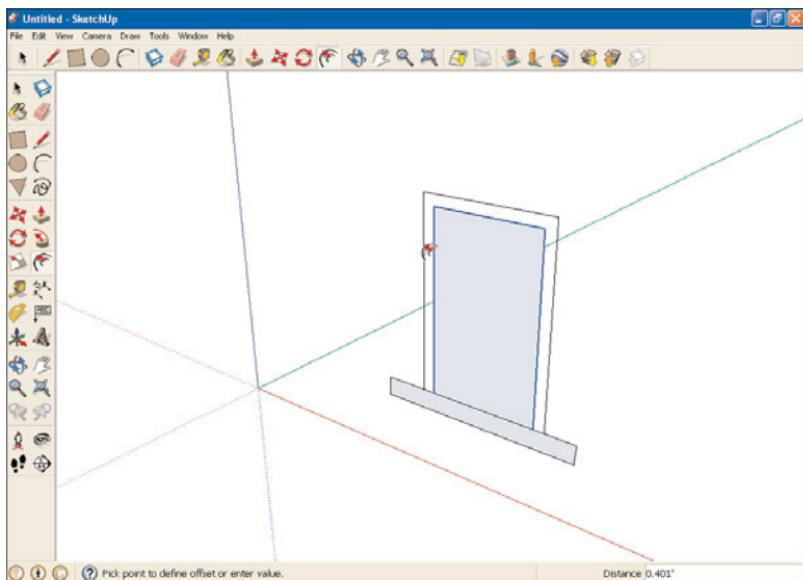

FIGURE 9.8 An offset using edges.
Wouldn't it be nice if you could just offset the top three edges of the door, as shown in Figure 9.8?
8. Move the mouse to make an offset appear. The Offset tool draws an offset following the edges of the current surface, as you can see in Figure 9.8.